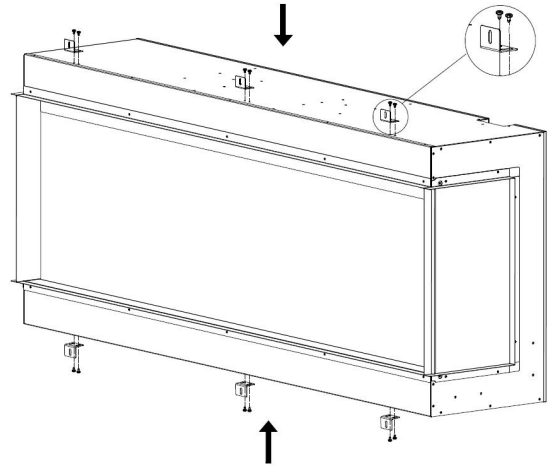

Fig.3-2
5. Fix the brackets with the screws in the previous step. Fig.3-2